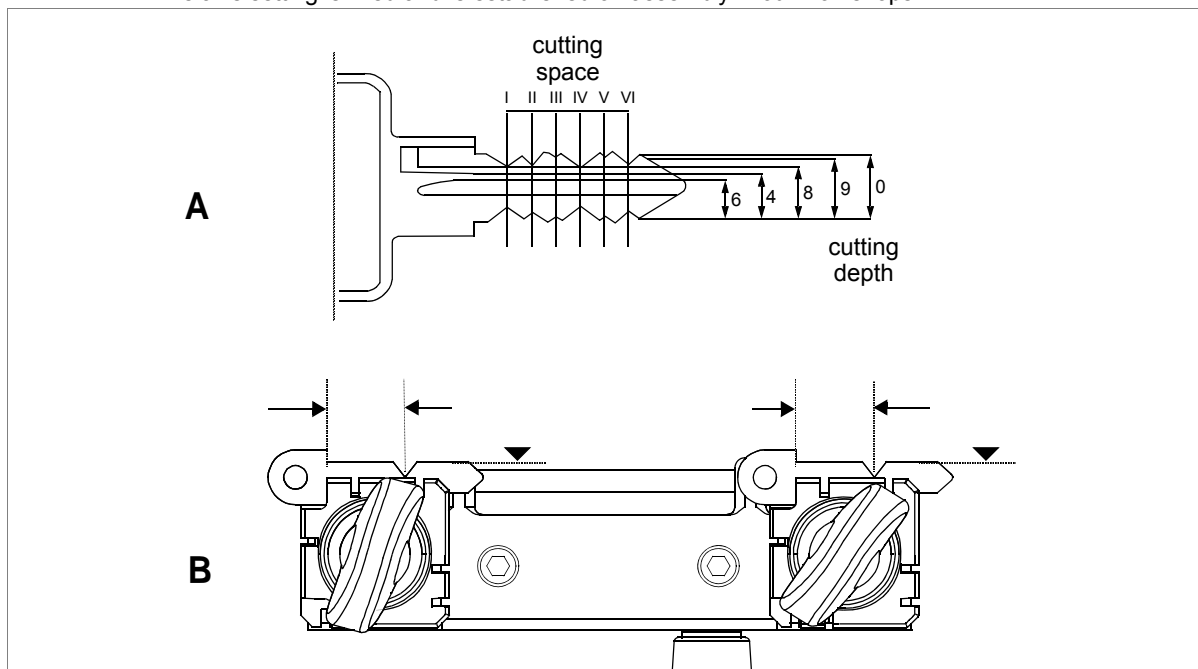

Fig. 15
Axis calibration is regulation of the space between the stop and the cuts (fig. 15).
Depth calibration is regulation of the cutting depth (fig. 15-A).
- 2) Place the adjusting keys (provided) on the clamps (fig. 15-B).